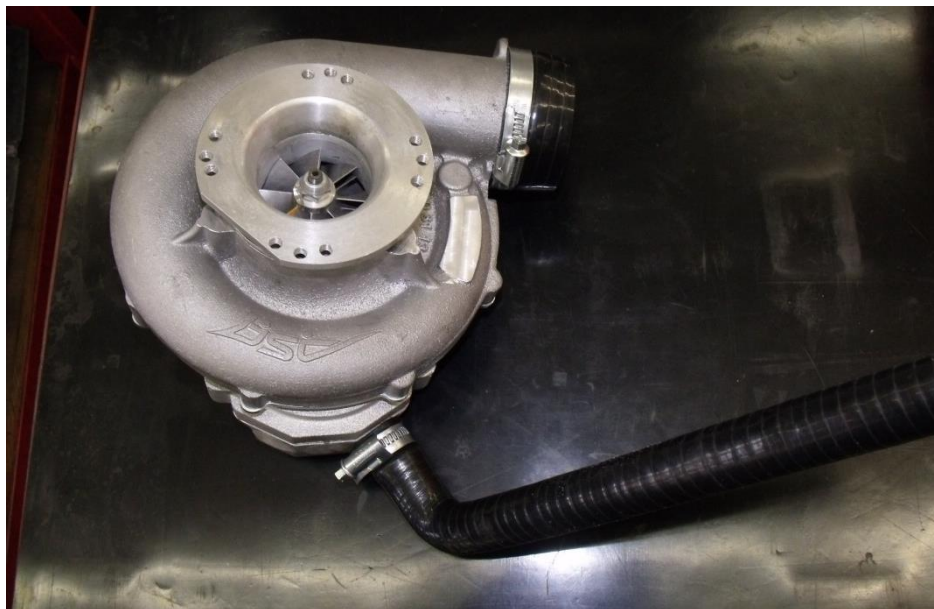

Figure 23
3. Prepare compressor: Mount flange P341-24-15 with greased O-ring on the compressor. Note the angle of the flattening (Figure 23). The flattening points shows in the opposite direction than the pressure tube and is located at the bottom of the compressor.